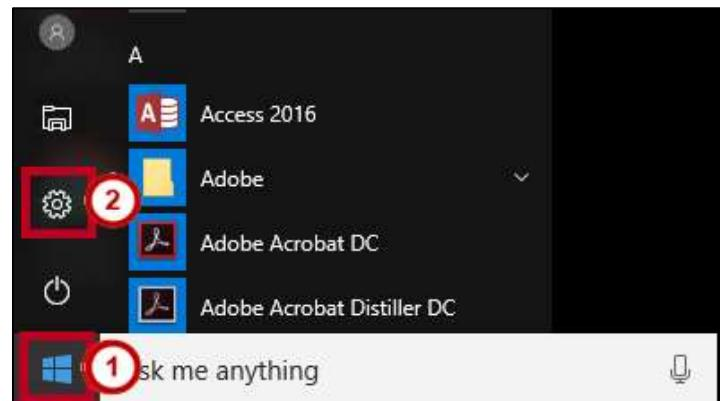

Figure 1 – Settings
- 1 Click the Start button (See Figure 1).
- 2 Click Settings (See Figure 1).